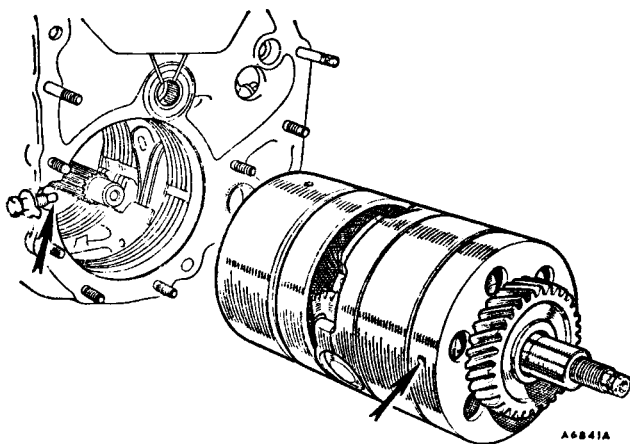

Fig. Fa.10
13. Remove the dowel bolt (Fig. Fa.10) and remove the gear train which includes the top and reverse clutch with its Torrington needle thrust bearing and steel washer, and the first gear free-wheel assembly.
44. Ensure that the top and reverse clutch friction plates are free to drop before refitting the gear train assembly into the transmission. Correctly position the second, third, and reverse gear bands in the case and refit the gear train, using hand pressure only to push it into position. Quick rotation of the input gear will assist in engaging the top and reverse clutch friction plates. When correctly reassembled the dowel bolt will engage easily in the free-wheel support (Fig. Fa.10).